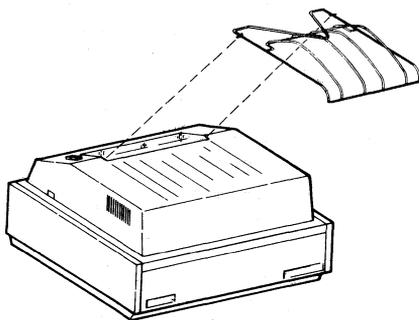

Fig. 10—Paper Guide
3.11 Close cover and snap paper guide into position (Fig. 10).